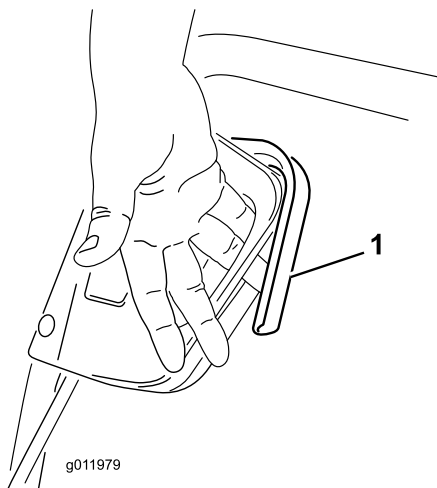

Figure 6
3. Insert a couple of fingers into the opening of the starter and push the control lever toward the handle (Figure 6).